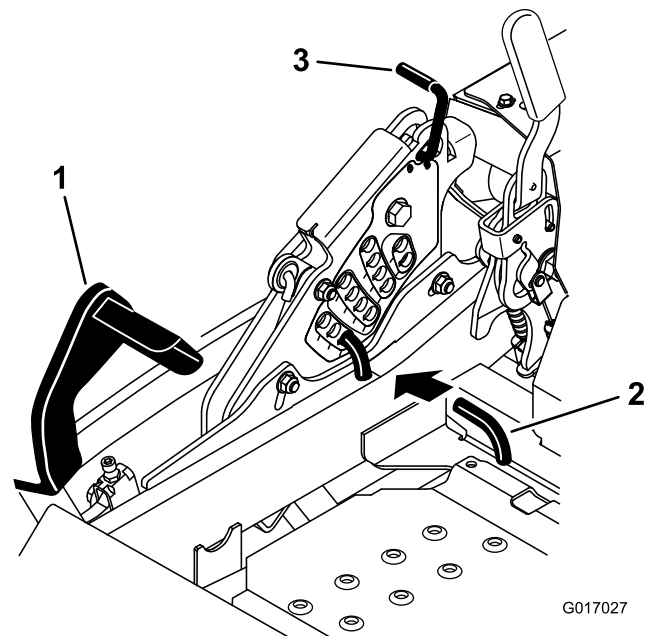

Figure 93
5. Push the deck lift pedal all the way forward and the deck will latch at the 5 1/2 inch (14 cm) transport position (Figure 93).